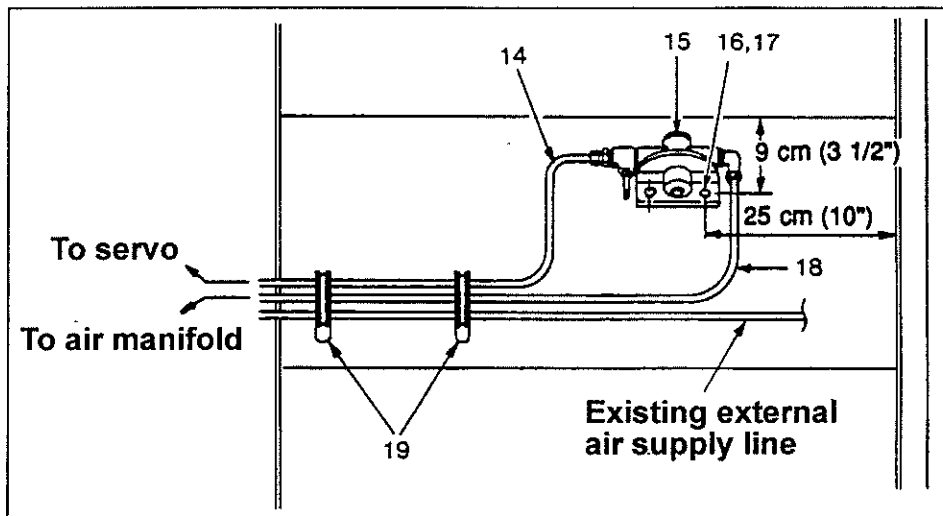

FIGURE 2: AIR PRESSURE REGULATOR INSTALLATION
Air Pressure Regulator installation. (Fig. 2)
3. Position regulator assembly (15) as illustrated in figure 2 then using regulator bracket as a template, mark location of the two holes to be drilled.
4. Drill the two holes using a 3/16" (5 mm) bit. Mount regulator assembly using two #14 x 3/4" screws (16) and lock washers (17).
5. Remove compression nut and sleeve from the 90° elbow mounted on regulator, slide them on one extremity of new plastic tube (18) then connect it to the 90° elbow.